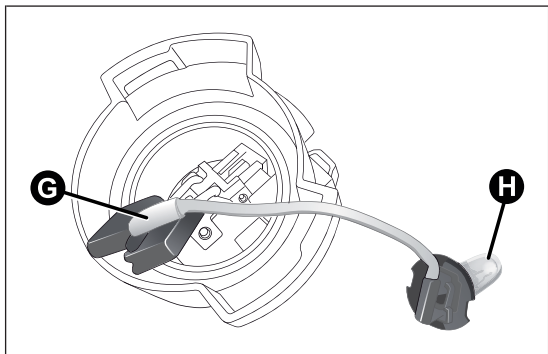

fig. 138
- release the connector G fig. 138 and replace the bulb H;